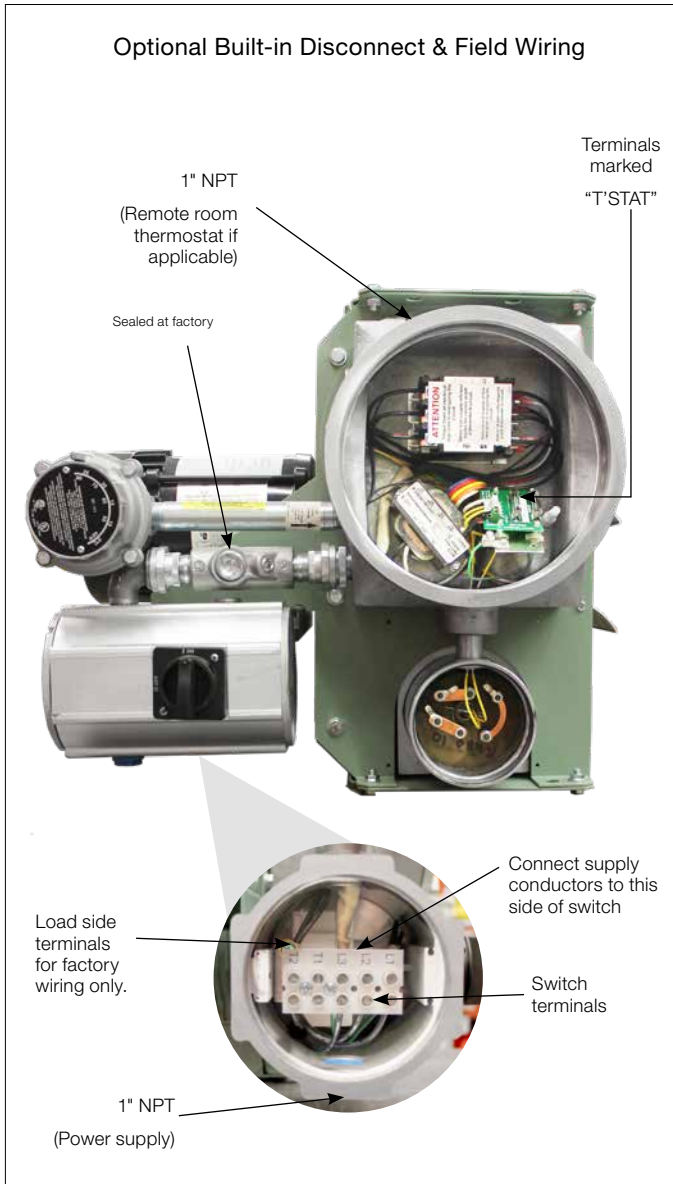

Figure 8
- 2.2 Heater may be supplied with a factory installed built-in room thermostat (see Figure 8, page 10). On heaters not supplied with this option, it is recommended that a remote room thermostat be used. Connect the remote room thermostat conductors to the printed circuit board terminal block marked "TSTAT". Any thermostat used with this heater must:
- 2.3 Heater may be supplied with a factory installed built-in integral disconnect. (See Figure 8, page 10)
- Power Supply conductors and Ground conductor pass through 1" NPT opening of Disconnect Enclosure (see Figure 8, page 10). Supply conductors to be wired to Disconnect Switch inside. Ground conductor to be wired to Ground Lug fastened to inside of Disconnect Enclosure.
- If applicable, Remote Room Thermostat conductors pass through 1" NPT opening (see Figure 8, page 10) and are to be wired to printed circuit board terminals marked "T*STAT".